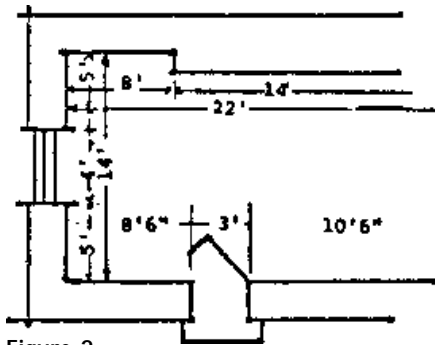

Figure 2.
3. The second set of measurements are the dimensions of the projections, recesses, windows, doors and door-swings. (See Figure 2.)